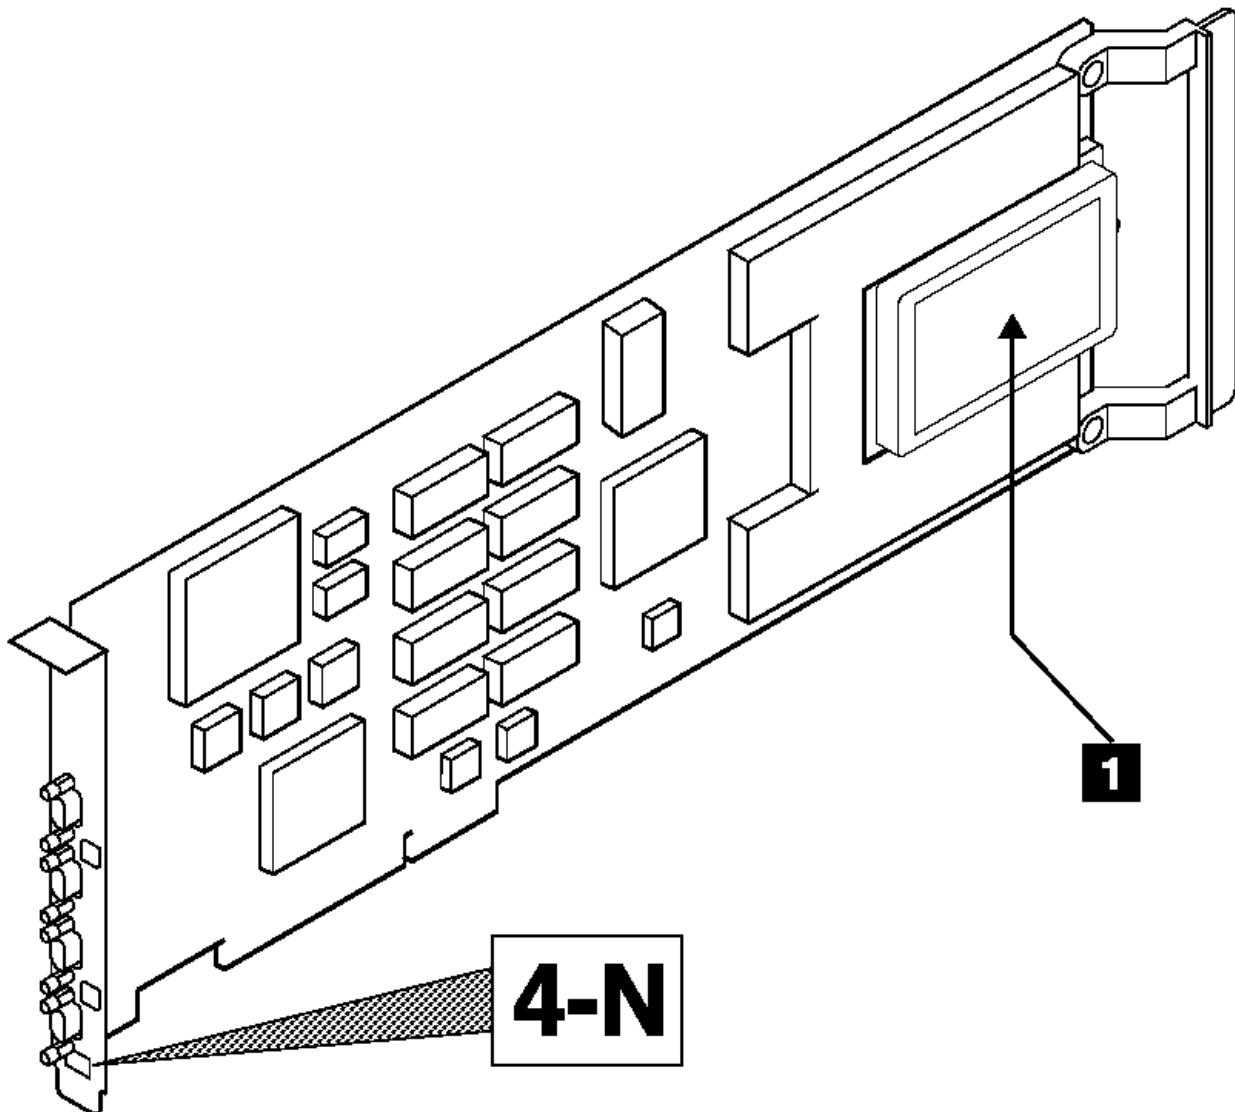

Figure 10-3. The SSA Fast-Write Option Card Installed on a PCI SSA Multi-Initiator/RAID EL Adapter
2. Refer to Figure 10-2 and to Figure 10-3 to identify the Fast-Write Cache Option card 1 on the type of adapter card that you are servicing.